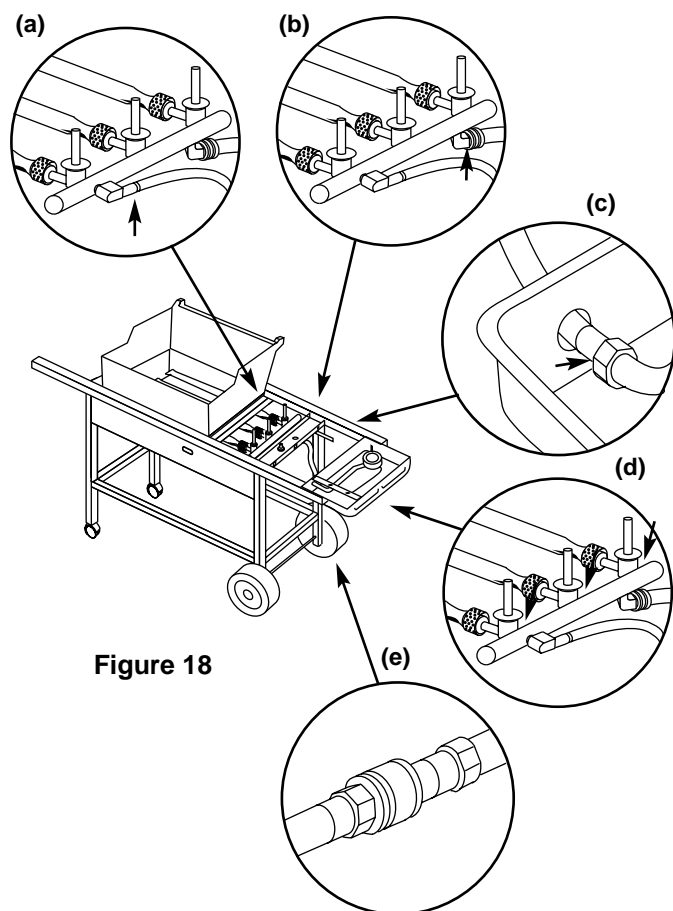

Figure 18
- a) Hose to manifold connection. Figure 18 (a).
- b) Manifold to side burner hose connection. Figure 18 (b).
- c) Side burner hose to side burner connection. Figure 18 (c).
- d) Valves to manifold connections. Figure 18 (d).
- e) Hose to quick disconnect connection. Figure 18 (e).